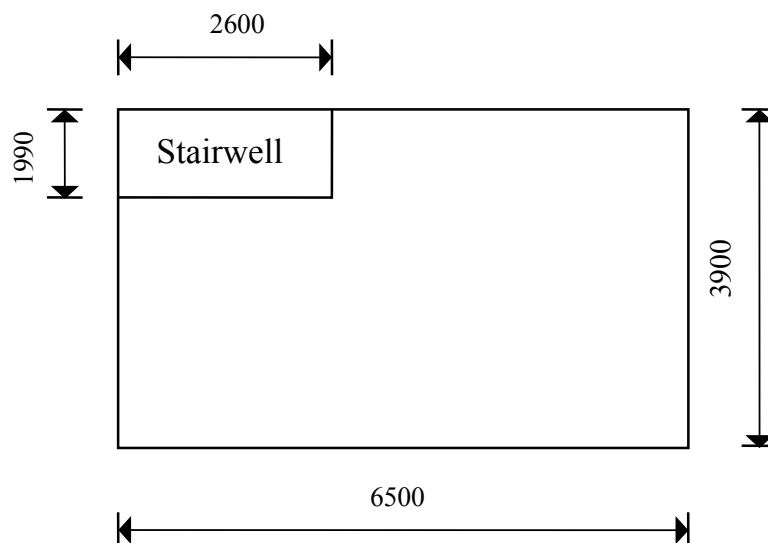

Fig.2
- the number of sheets of flooring grade particle board required to cover the floor area shown in Fig.2